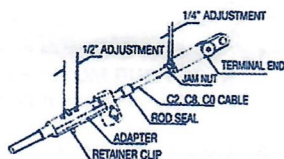

Fig. 2
6. Thread the terminal end on the rod of the cable until it stops. **Fig.2**